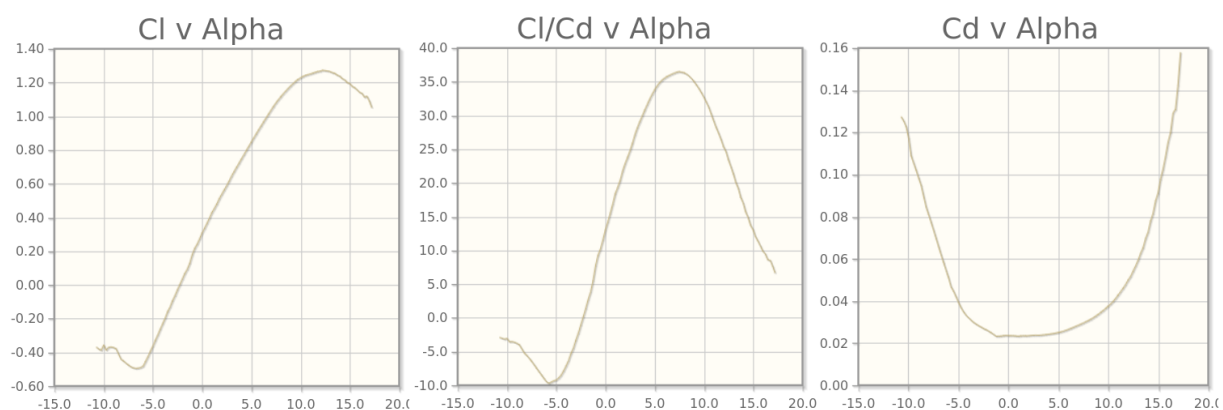

Figure 3.2: Lift and drag coefficient depended on AOA (AirfoilTools Contributors 2020).
The maximum thickness of the airfoil is $d_A F = 11.7$ at 28% of chord length. Some more data on coefficient of lift (CL) and coefficient of drag (CD) of the CLARK Y airfoil shape are presented in fig. 3.2 (AirfoilTools Contributors 2020).